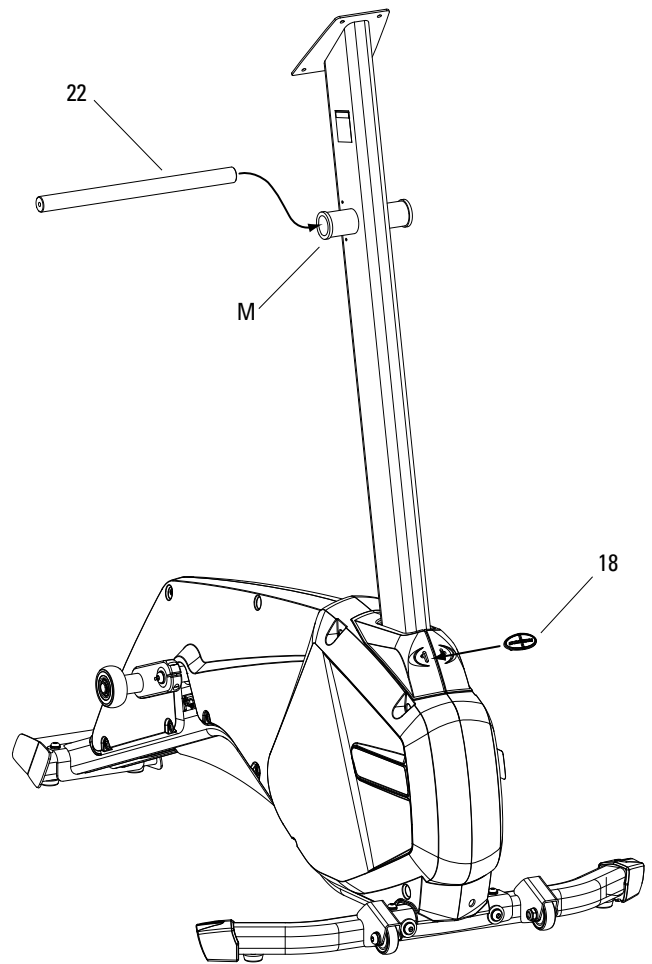

Figure 4b
4-4 Push the Mast Clip into the holes in the front of the Mast Boot (Figure 4b).
4-5 Push the Arm Pivot Rod through the pivot mount (M) on the Console Mast (Figure 4b).